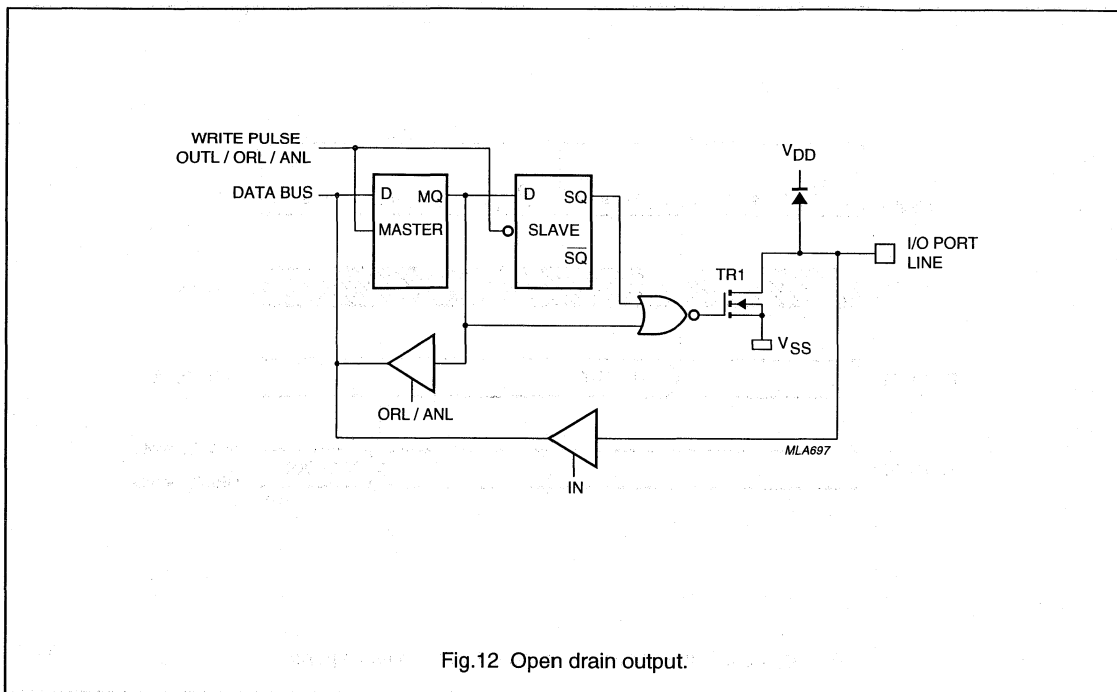

Fig.12 Open drain output.
- Option 2 Open Drain; quasi-bidirectional I/O with only an n-channel open drain output. Application as an output requires connection of an external pull-up resistor (see Fig. 12). If unused, an Option 2 output should be tied to  $V_{SS}$ . This keeps the input path from floating, thereby avoiding undesirable current flow through input stages.